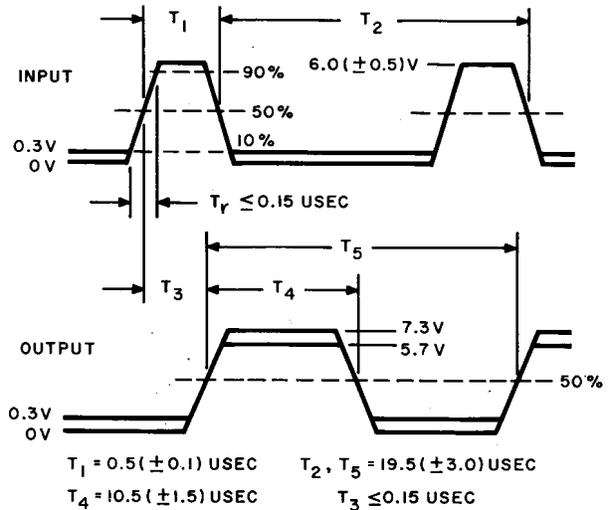

Fig. 35A — Monopulser Test
- (1) Refer to Table D to determine which monopulser and corresponding input resistor are under test.
- (2) Set the NORMAL-DEGRADED selector to NORMAL.
- (3) Adjust potentiometer P1 until the voltage between J1 and ground measures +6.0 (±0.2) Vdc with the voltmeter.
- (4) The input test pulse on J8 should be as specified in Fig. 35A.
- (5) Rotate the INPUT selector through positions 1 to 6. The output pulse on J3 should be as specified in Fig. 35A at each position.
- (6) With the TEST FUNCTION selector in position 2, repeat as in (5).